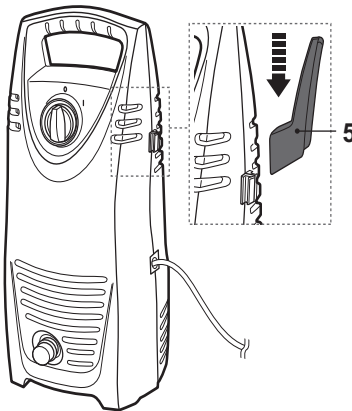

Fig. 1
- > Attach the hose holder (5) to the product (Fig. 1).